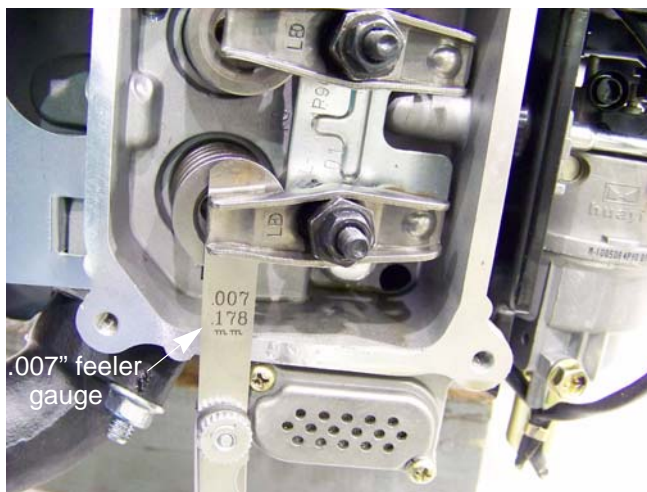

Figure 1.13
8. Exhaust valve lash (bottom valve) should be 0.006" - 0.008" (0.15 - 0.20mm). See Figure 1.13.
9. Use a 10mm wrench to loosen the jam nut, and a 14mm wrench to adjust the rocker arm fulcrum nut. See Figure 1.13.